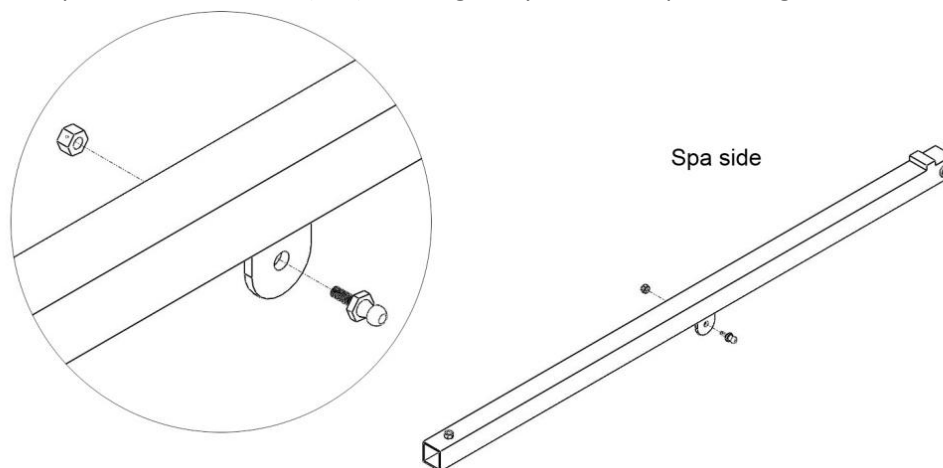

Figure 3
3. Attach Ball Studs (cvB) to both Pivot Arms (cvCC) with Lock Nuts (cvF); repeat this for each side of the spa. Ensure the round part of the Ball Stud (cvB) is facing away from the spa. See Fig 3.